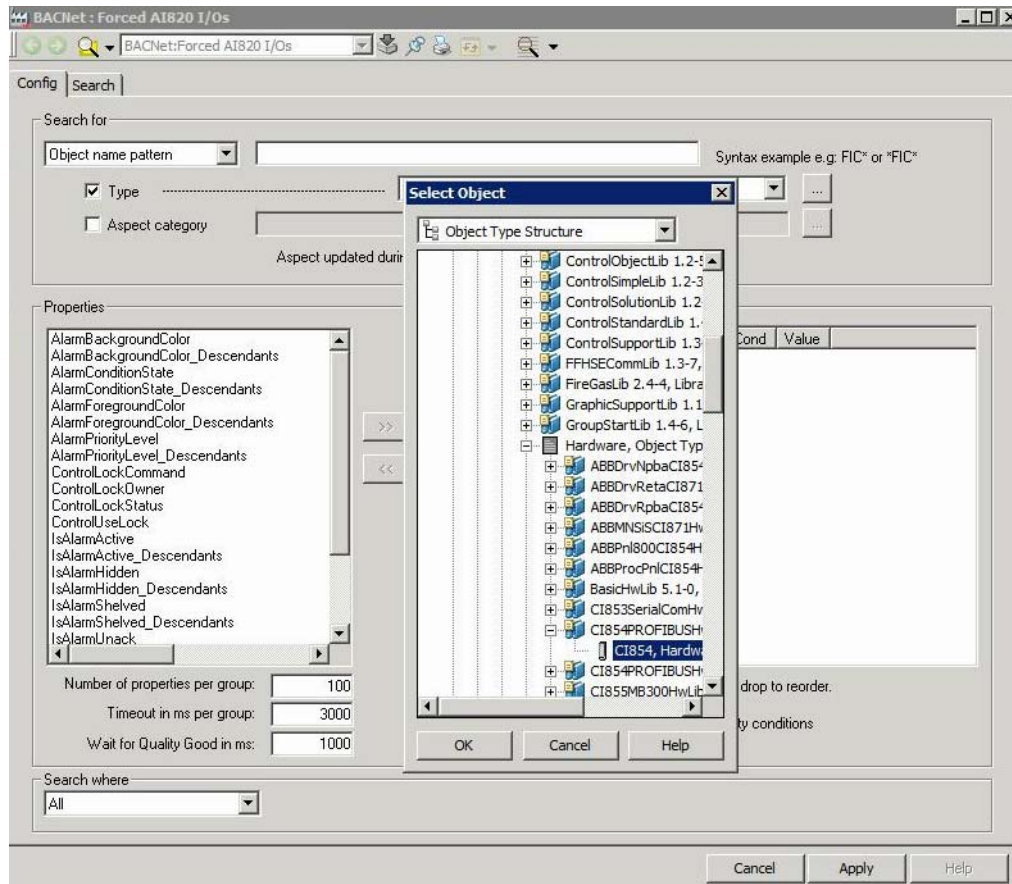

Figure 6. Template configuration view
2. Select the Type box, click on the **Browse** button to the right of the drop-down window. Browse for a Hardware type in the Object Type structure as shown in Figure 6 and Click **Ok**.